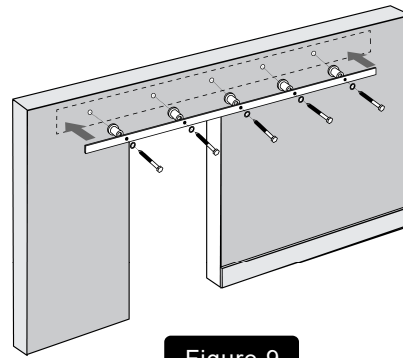
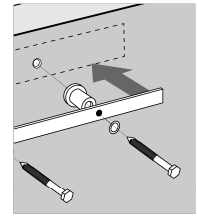

Figure 9
Figure 9-1
- Fasten the track using the lag bolts, wall spacers and washers as shown in Figure 9 and Figure 9-1.